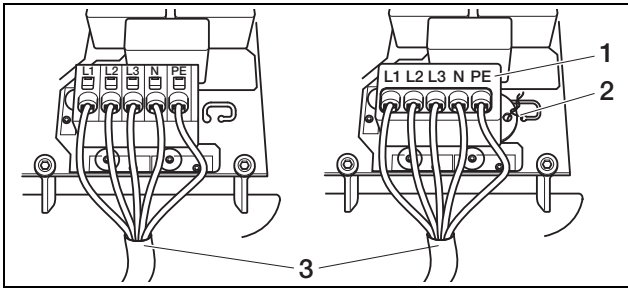

Fig. 15: Mains cable connected (left without sealing cap, right with sealing cap (shown PIKO 7.0/8.3/10.1))
- Connect the wires of the mains cable to the AC terminal in accordance with the labelling (figure 15).